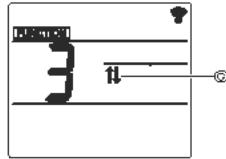

Fig. 5-2
1. In the Function setting screen, press the button ④ and select function No. "3".
2. Press the button ③.
- The ascending/descending mark ⑤ blinks. (Fig. 5-2)
3. Press the button ④ or the button ⑤.